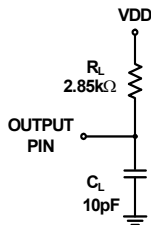

FIGURE 4. EQUIVALENT LOAD CIRCUIT
9. During characterization, tDISABLE is measured from the release point with a 10pF load (see Figure 4) and the equivalent timing using the AD7452 loading (25pF) is calculated.